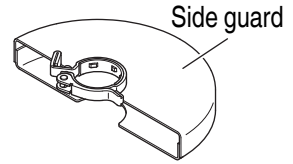

Fig. 1
- When using a abrasive cutting wheel, be sure to remove the standard accessory wheel guard and attach the wheel guard with side guard (sold separately) (Fig. 1);